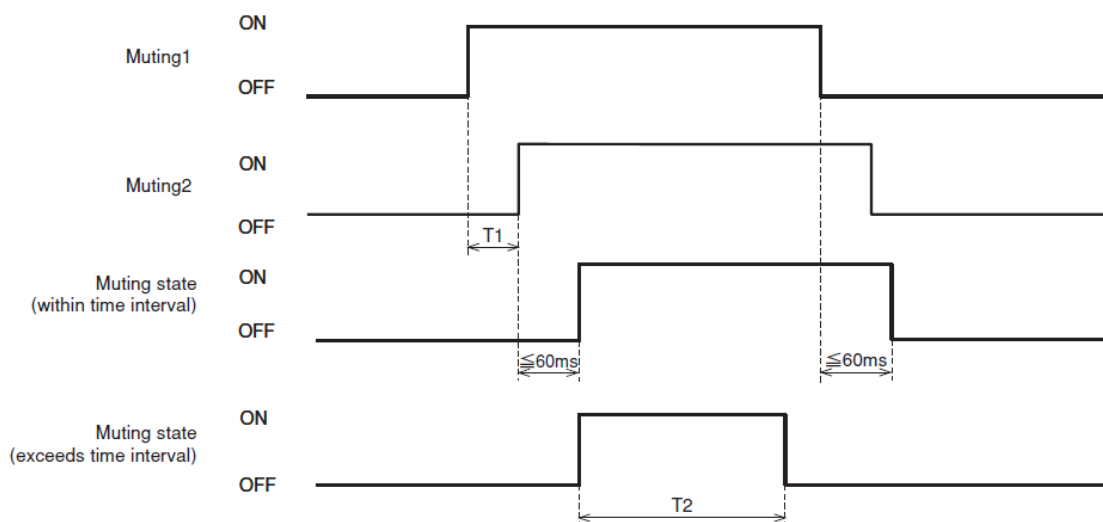

Figure 3-20 Muting sequence
- The two independent hard wired muting input signals are switched to ON state in the predefined sequence within the pre-set time interval. However, the switching interval between two input signals should not be 0 (Refer to figure 3-20).
- When the predefined (preset) maximum muting time T2 exceeds (1 minute and above) (Figure 3-20).
Figure 3-20 shows the muting sequence.